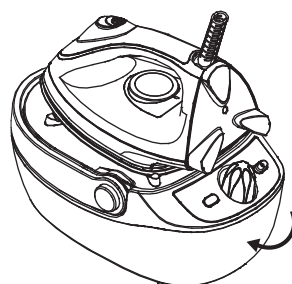

Fig.7
4. Screw up the safety valve fully. (Fig.7)